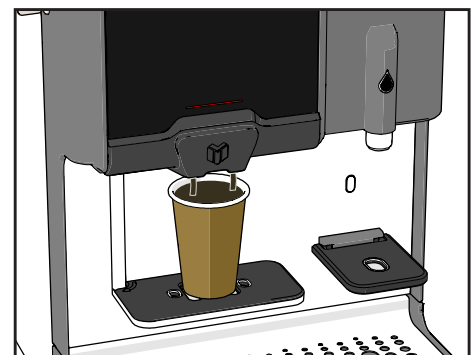

Figure 19.
3. Place a cup or glass on the cup Tray under the spout with flashing light (see Figure 19).